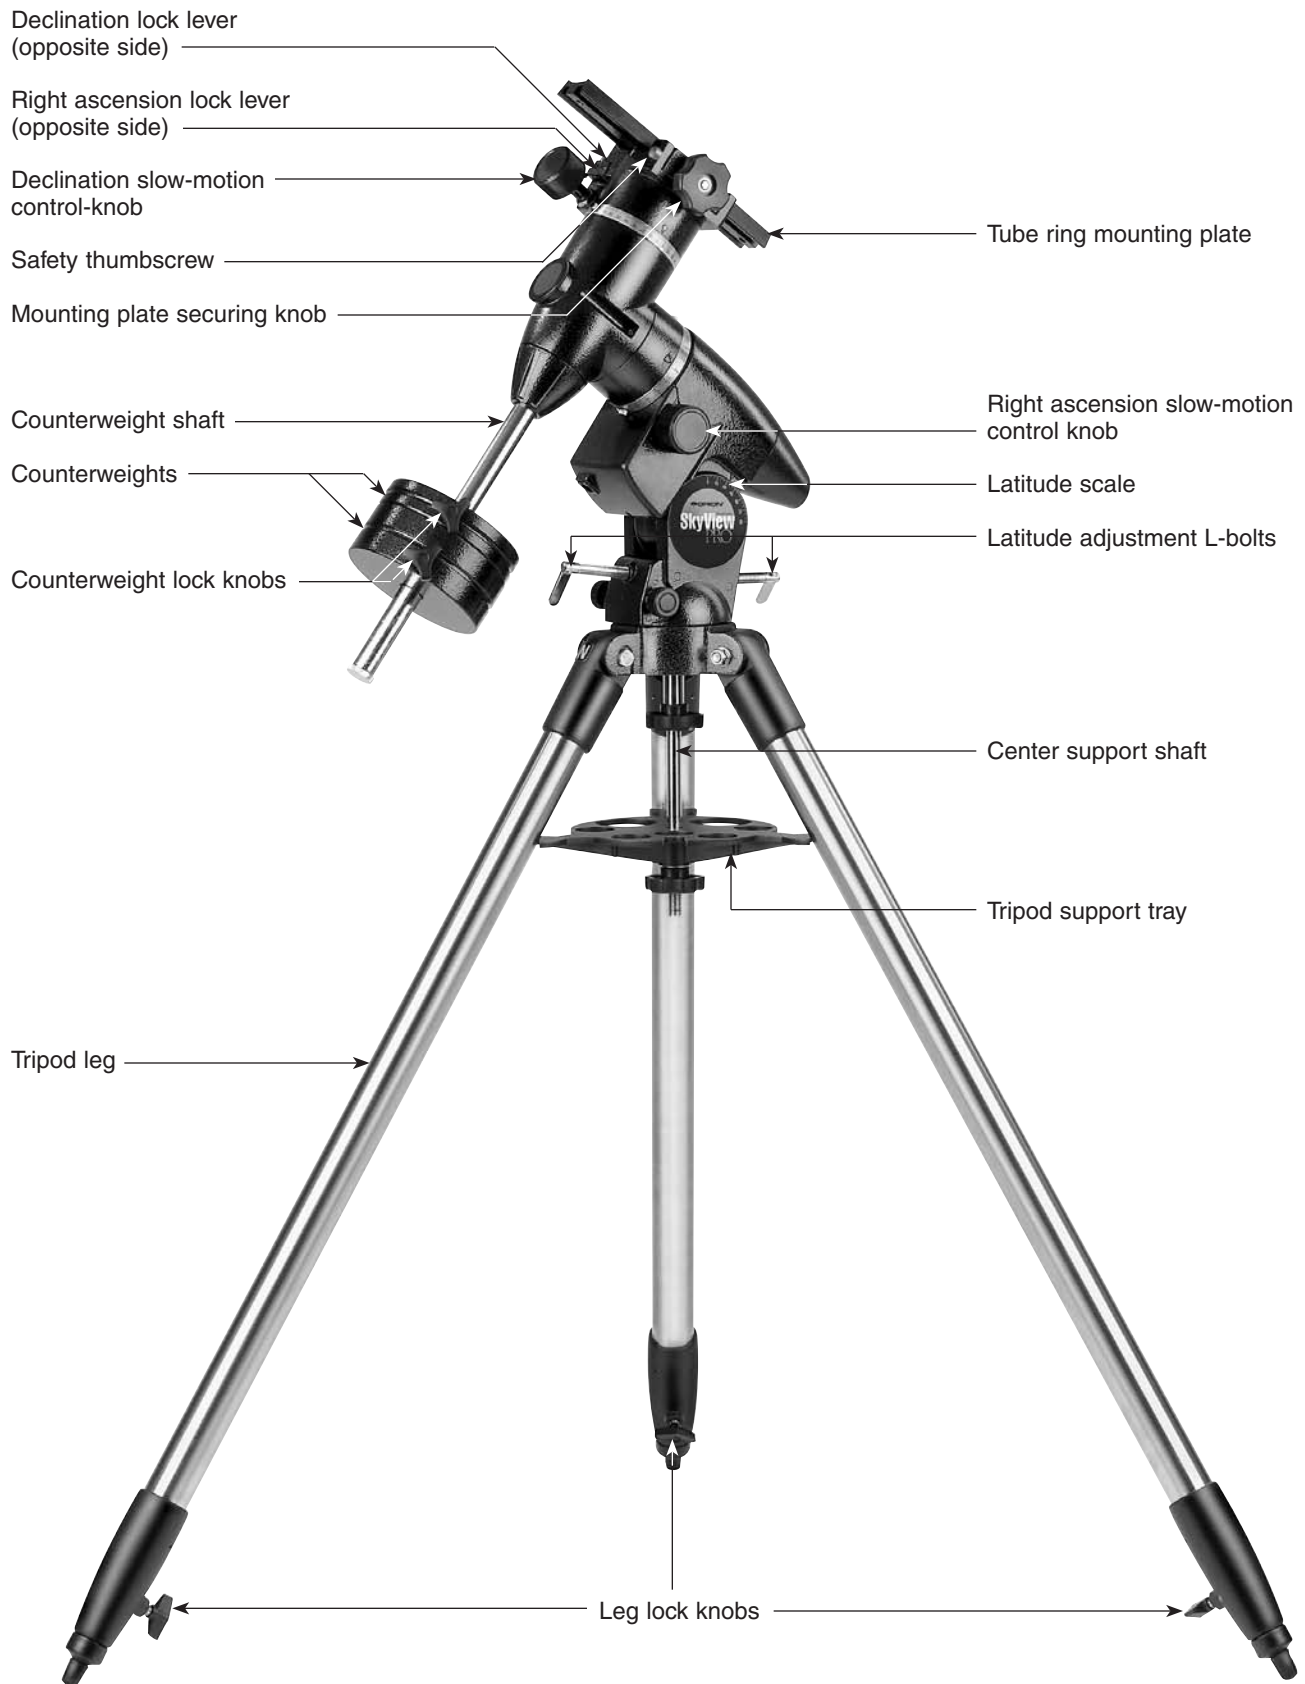

Figure 1. The SkyView Pro EQ Mount.
4. Thread the latitude adjustment L-bolt into the rear of the equatorial mount as show in Figure 1
Your SkyView Pro EQ mount is now fully assembled and should resemble Figure 1.